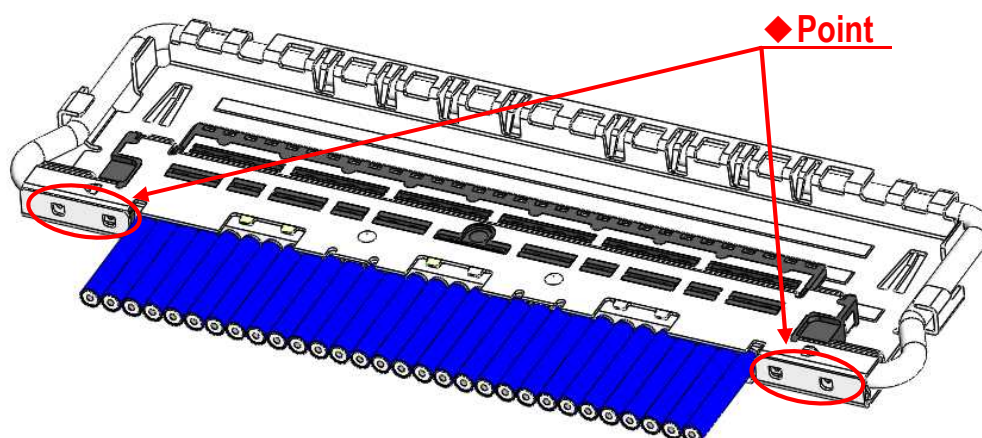

Fig.14 Soldering of SHELL-A and SHELL-B
- ⑤ Soldering SHELL A and SHELL B with the soldering iron at all designated points is recommended. (Fig.14 ♦ point)